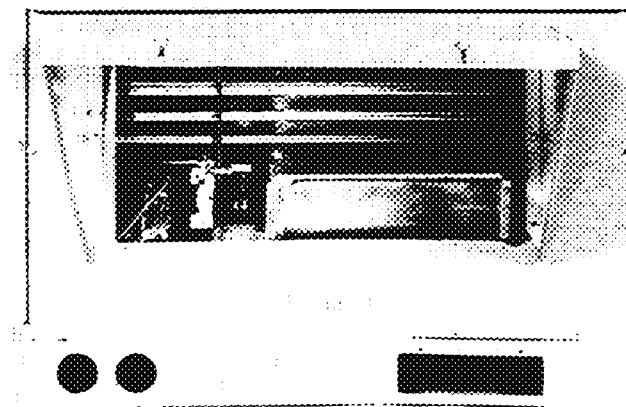

Fig. 26 – Outdoor-Air Hood Installed on Unit
10. Fasten hood top and side plate assembly (Fig. 26) to outdoor-air opening panel with screws provided.